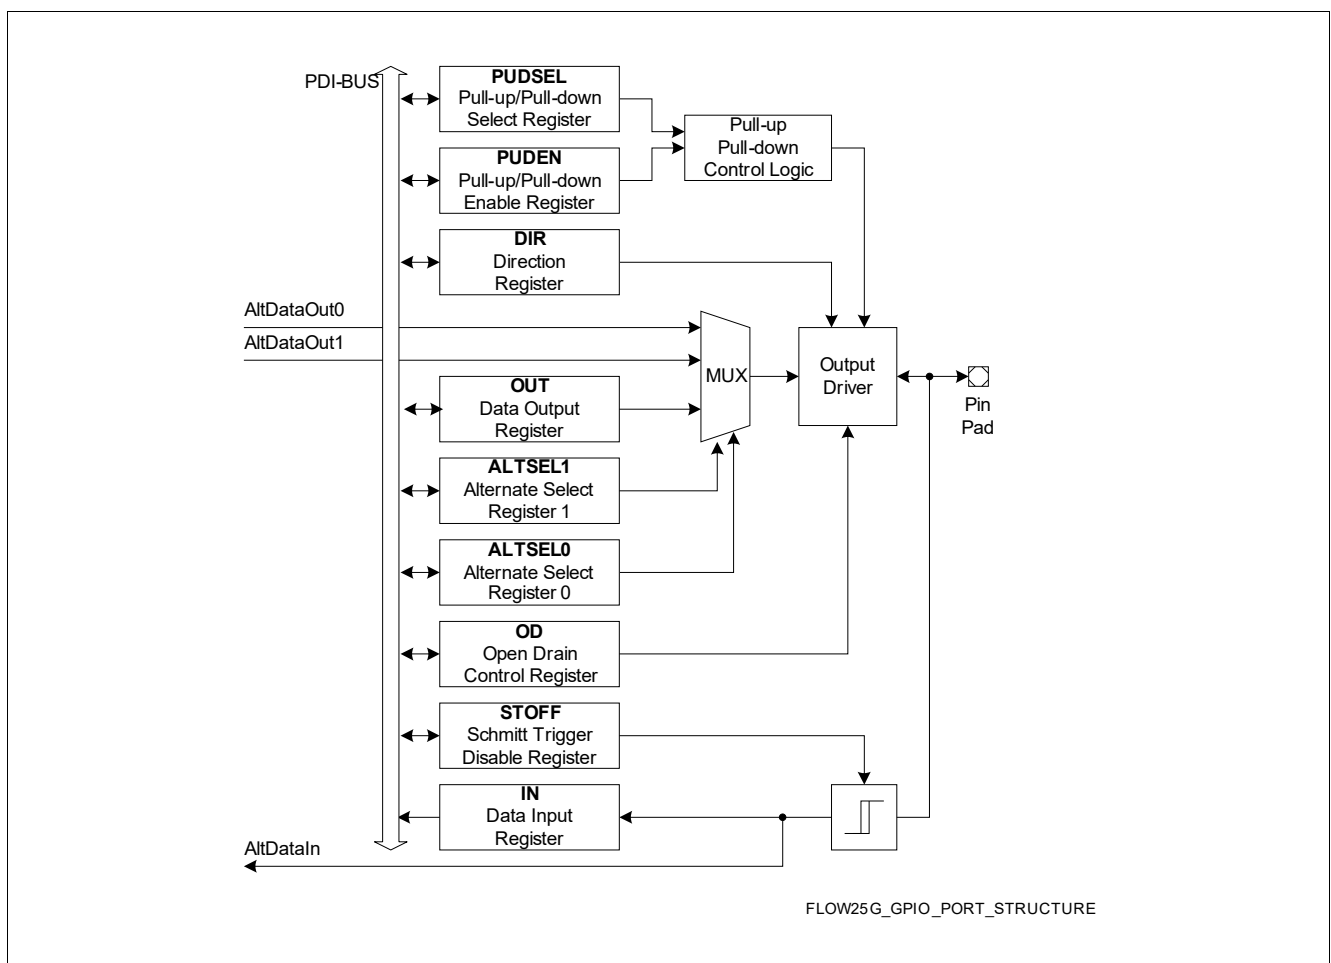

Figure 17 General Port Structure
**Figure 17** shows a general block diagram of a GPIO pin. Each GPIO pin is equipped with a number of control and data bits, enabling very flexible usage of the line.